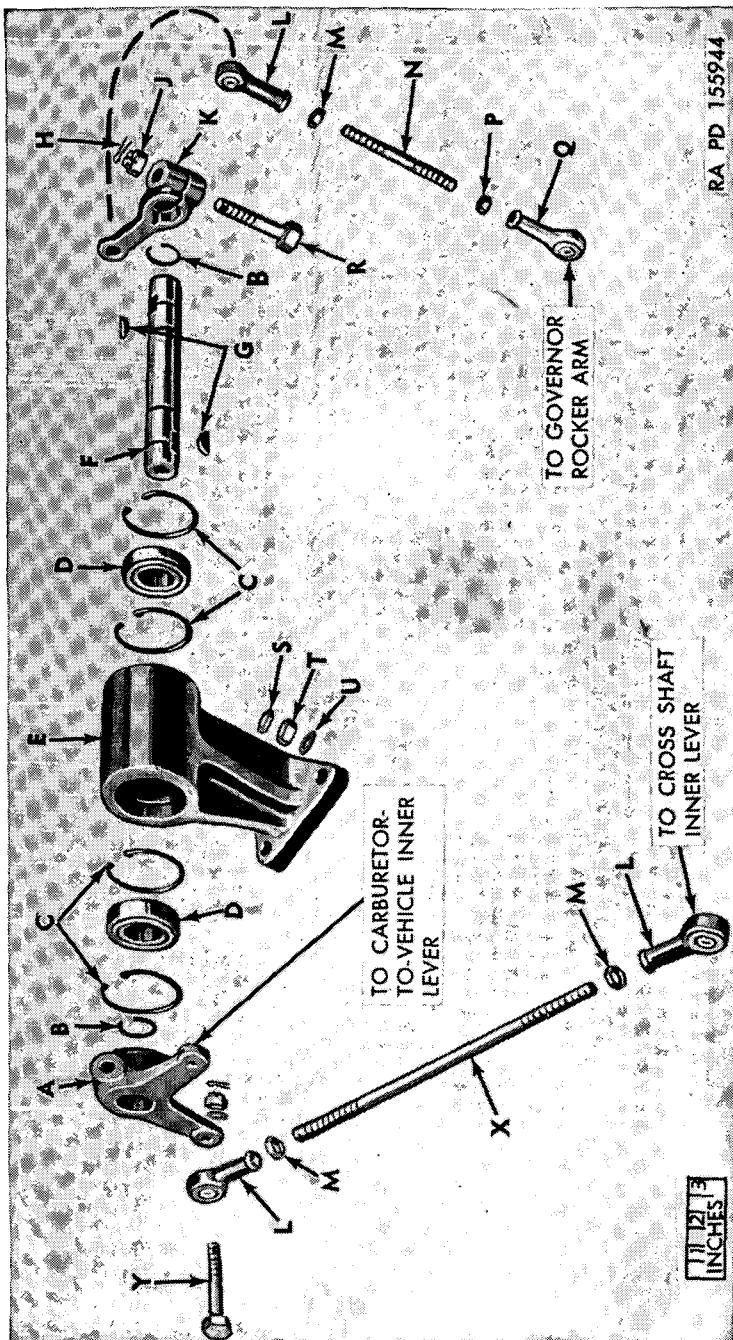

Figure 74. Throttle Linkage—governor linkage—exploded view.
- (4) Remove internal snap rings (L) and ball bearing (R) from the left cross shaft support bracket (M). If necessary, use a soft hammer to tap the bearing out.
- (5) In a similar manner remove lever, key, bracket, and bearing from the other end of the shaft.
- (6) Remove the remaining cross shaft inner lever and bracket by the same method as (2) and (4) above.
*e. Disassembly of Governor Linkage* (fig. 74).
- (1) Remove the cross shaft-to-control shaft rod (X) from the control-shaft-to-vehicle lever (A). Remove the right- and left-hand thread control-shaft-to-governor rod (N, fig. 74) from the control-shaft-to-governor lever (K) as outlined in *d*(1) above.
- (2) Remove the control-shaft-to-governor lever (K) from the governor control shaft (F) by removing cotter pin, slotted nut and bolt holding it to the shaft. If necessary, use a soft hammer to remove lever from the shaft. Remove Woodruff key (G) from the control shaft.
- (3) Remove external snap ring (B) from the control shaft. Using a soft hammer, tap the end of the shaft and the governor control-shaft-to-vehicle lever (A) from the control shaft support bracket (E).
- (4) Remove the outer internal snap rings (C) from the control shaft support bracket and remove ball bearings (D).